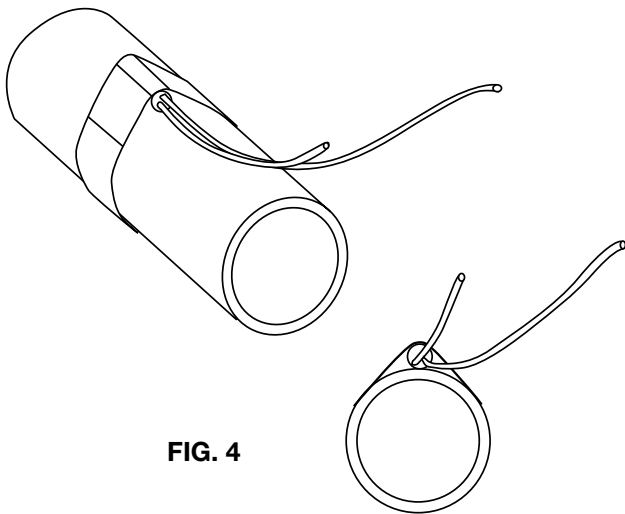

FIG. 4
- Strap the boiler return and secondary loop sensors to the pipe as shown in Figure 4.